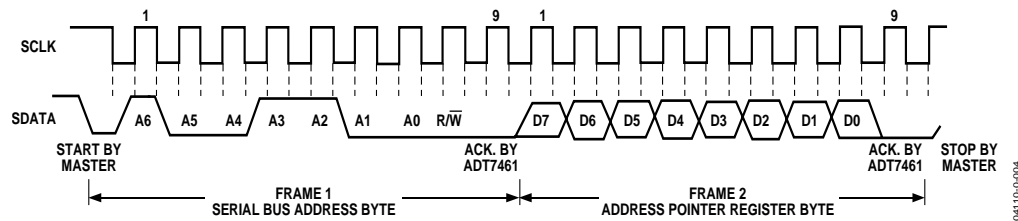

Figure 18. Writing to the Address Pointer Register Only
1. If the ADT7461's address pointer register value is unknown or not the desired value, it is necessary to set it to the correct value before data can be read from the desired data register. This is done by writing to the ADT7461 as before, but only the data byte containing the register read address is sent, since data is not to be written to the register. This is shown in Figure 18.
2. If the address pointer register is known to be at the desired address, data can be read from the corresponding data register without first writing to the address pointer register and the bus transaction shown in Figure 18 can be omitted.